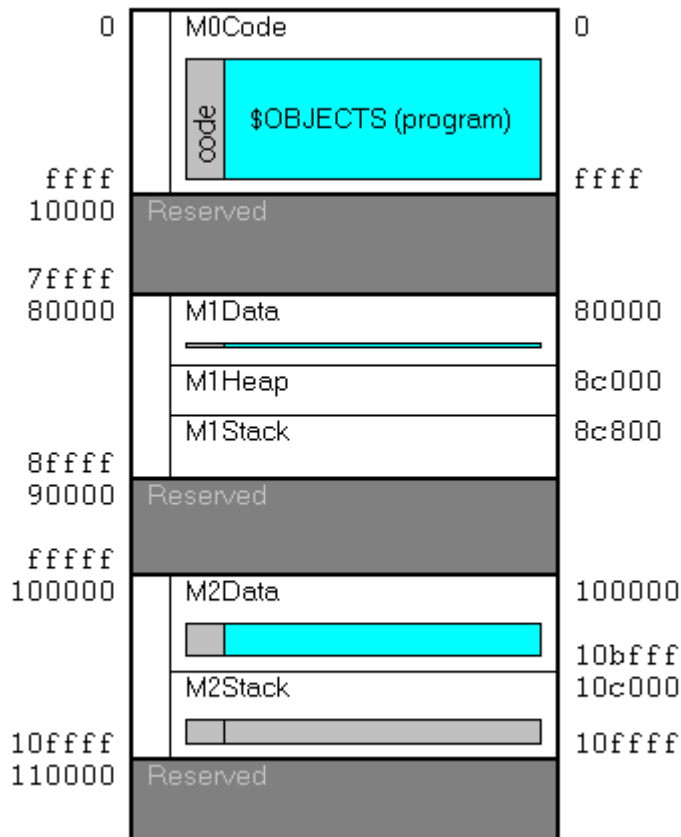

Figure 3-16. Graphical Memory Map Representation
- **Graphical Memory Map** – Displays the memory map in graphical blocks (see Figure 3-16 on page 3-23).
Figure 3-16 shows an example of a graphical memory map.